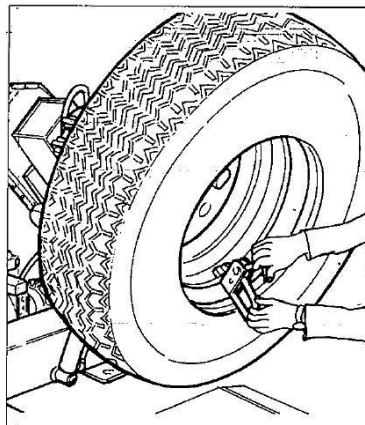

Fig.7.9
- 8) Remove the clip and replace it at 6 o'clock outside the second bead (See Fig.7.9).
- 10) Attach the clip at the bottom (6 o'clock) outside the second bead (See Fig.7.9).